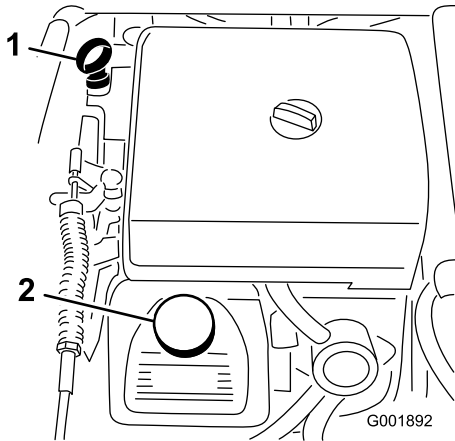

Figure 21
2. Remove the dipstick and wipe it with a clean rag (Figure 21). Insert the dipstick into the tube and make sure it is seated fully. Remove the dipstick and check the oil level.
3. If the oil level is low, remove the filler cap from the valve cover (Figure 21) and pour oil into the opening until the oil level is up to the Full mark on the dipstick; refer to Servicing Engine Oil, Engine Maintenance, page 45, for the proper oil type and viscosity. Add the oil slowly and check the level often during this process. Do not overfill.